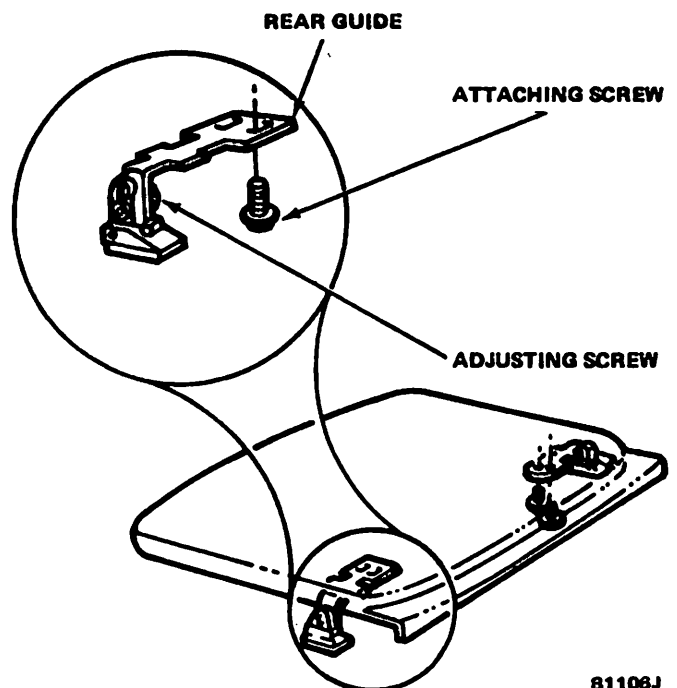

Fig. 3L-18 Glass Panel Rear Height Adjustment
(3) Turn knurled nut on each front guide shoe clockwise to lower glass panel or counterclockwise to raise panel and obtain desired height adjustment (fig. 3L-17).
(4) Tighten front guide shoe attaching screws to 20 inch-pounds (2.3 N•m) torque after adjusting panel height.